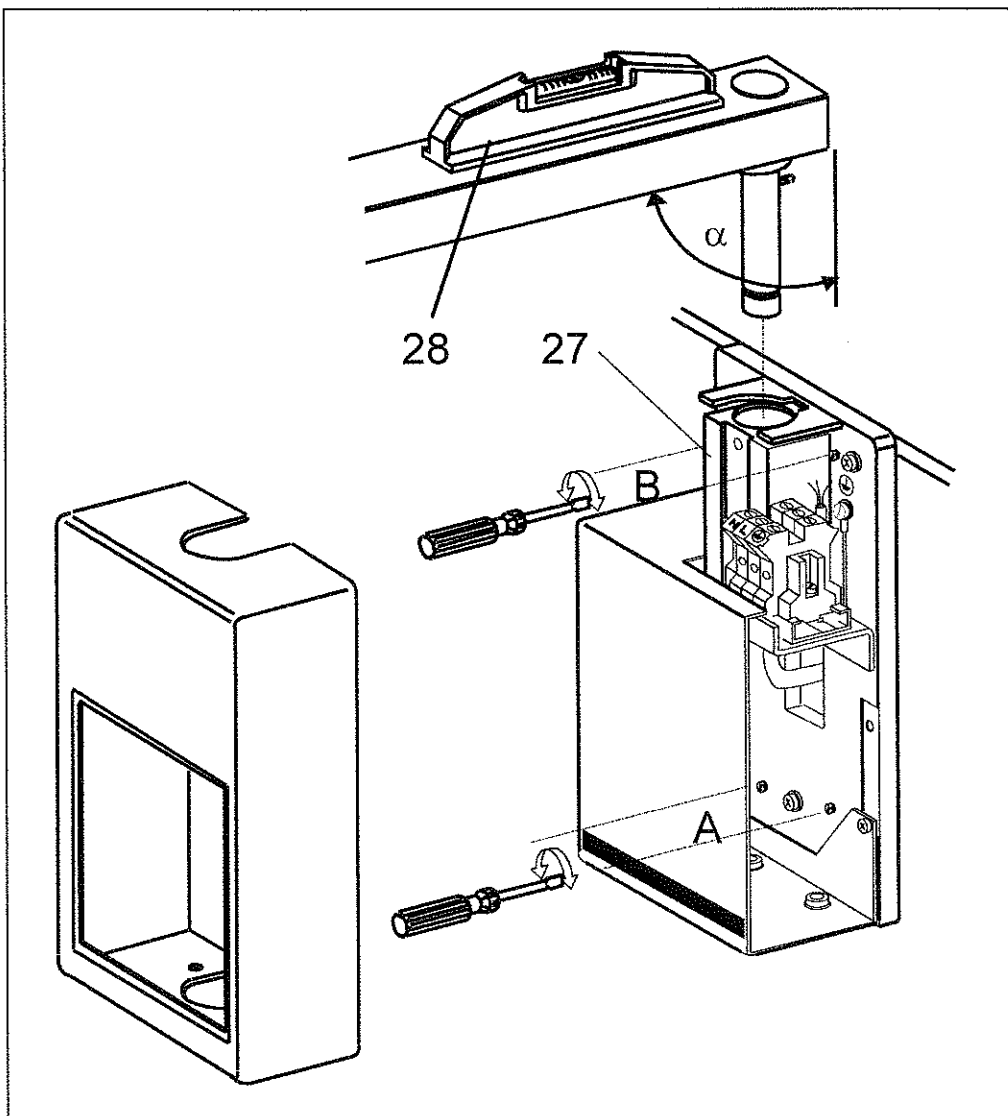

Figure 12 Arm levelling
e) Fit Arm assembly with Extension to wall-plate by inserting pivot into housing "27" (Figure 12 on page 26).
Adjust as follows (please refer to Figure 12 on page 26):